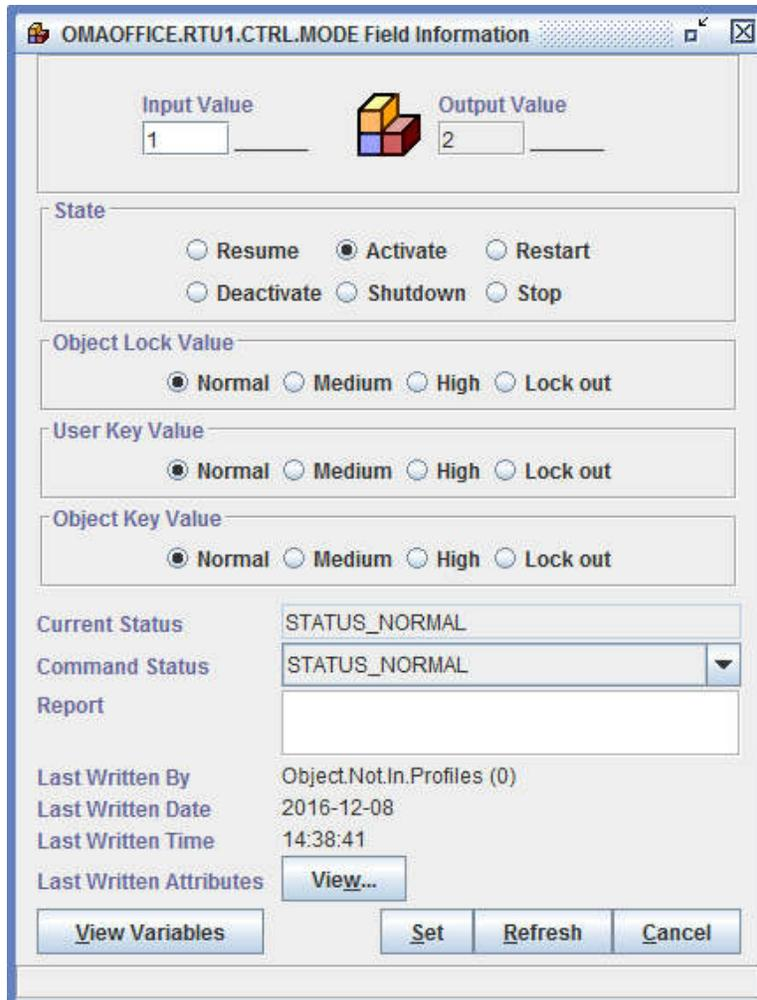

Figure 36- Control Block Status in the Field Information Window
- Upon initial download to the Control Block Manager (CBMgr), the control block status will be set to the value defined during the control block definition in the Field Information window as shown in Figure 36.
The status of a control block can be in the **Normal, On, Off, Night, Day and others** conditions predefined in the database. After the status is defined in the Field Definition window, the status of the control block will display in the Grid Display of the Digi-SFT. In Figure 36 the status of the control block is defined as NORMAL and displayed as NORMAL.